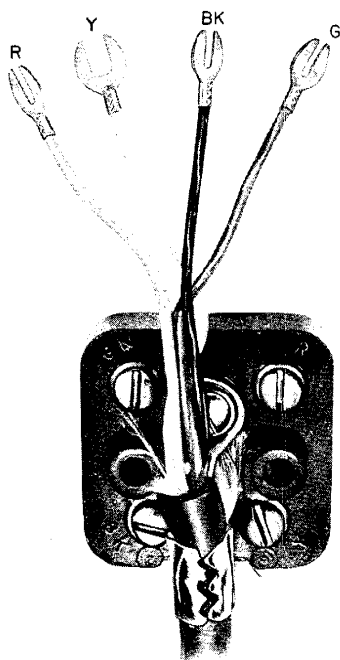

Fig. 15—Early Model D4BP Cord Ready to Terminate
- (3) With small eye of S hook up, insert RM-658901 self-tapping screw with P-284139 flat washer through large eye of S hook. Using farthest hole opposite cord entrance (Fig. 15 and 16), anchor cord securely.
- (4) Lay the cord conductors out straight from the cord (Fig. 15). Pass the green conductor clockwise under the cord stay and terminate it on the GN punching. Pass the red conductor counterclockwise under the cord stay and terminate it on the R punching. Pass the yellow conductor clockwise under and then